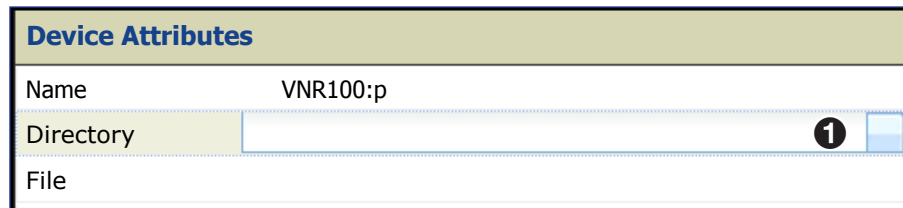

Figure 89. Select Directory Drop-down Box
3. Click anywhere inside the **Directory** field of the **Device Attributes** panel, then select the drop-down box on the right hand side (see figure 89, ①).